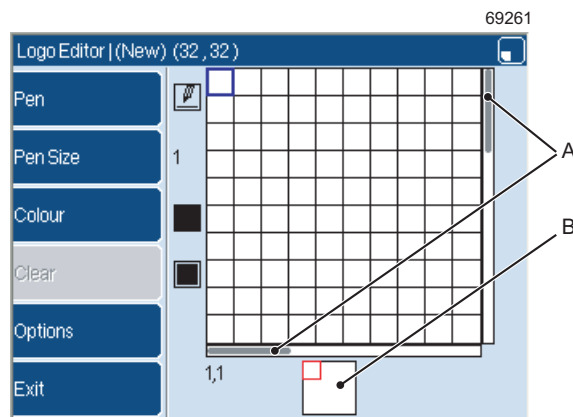

Figure 5. Scroll bars and preview box
In Figure 5, the scroll bars (A) show you which part of the logo you can see.
In Figure 5, the preview box (B) shows you a picture of the whole logo. The small, red square in this box indicates which part of the logo you can see.